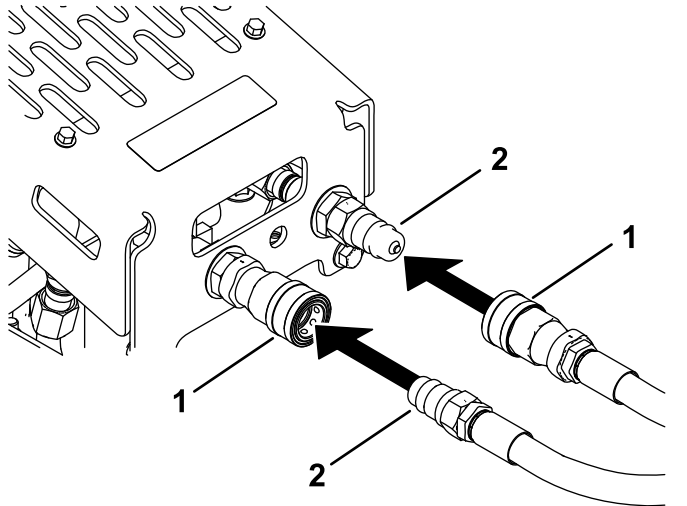

Figure 8
3. Connect the attachment hoses to the high-flow assembly quick-disconnect couplers (Figure 8).